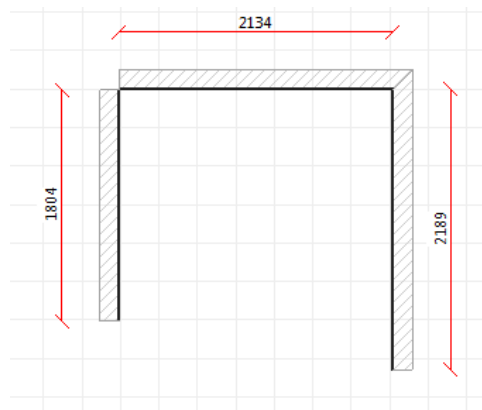

Figure 6.1: Detach wall
- ✧ Detach at the beginning, Detach at the end: it enables to detach the wall from others connected to it, see figure 6.1;